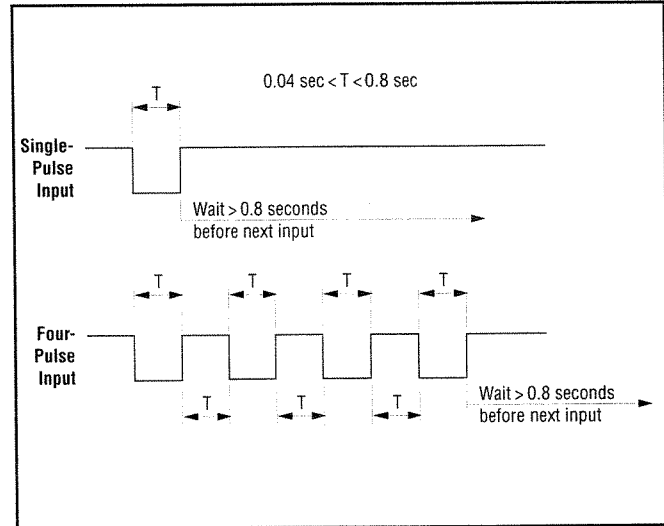

Figure 3. Timing programs for remote programming
The required spacing between adjacent pulses in a sequence (a "four-pulse") is also:  $0.04 < T < 0.8 \text{ seconds}$ . The timing diagrams (Figure 3, right) illustrate the input requirements.
Pulse the Remote TEACH line 4 times (four-pulse) to enable or disable the push button (see timing diagram, Figure 3).
2. Double-pulse the Remote TEACH line (see Figure 3). The sensor is now ready for Dynamic TEACH. The bi-color (green/red) indicator will be ON solid red and the yellow indicator will flash.